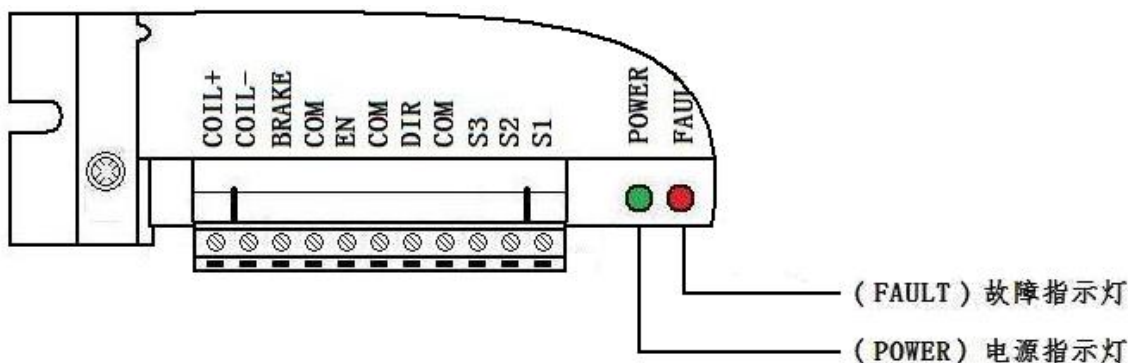

Figure 12
3. Ensure motor controller's external connecting wires are correctly wired. Short circuit or GND is not permitted (About correct connection, please see Figure 12).